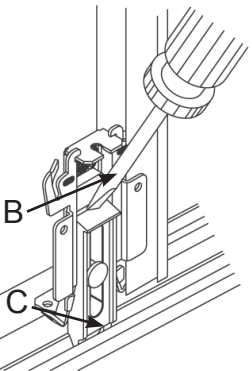

FIGURE 8
After obtaining approximately 1/2"(13) clearance at floor, press nylon button guide down with thumb or screwdriver at (B) until hooks (C) snap into floor track. Guide will ride up and down in channel to compensate for uneven floor level, without disengaging door. Guide can be removed by prying up under nylon flange (Figure 8).